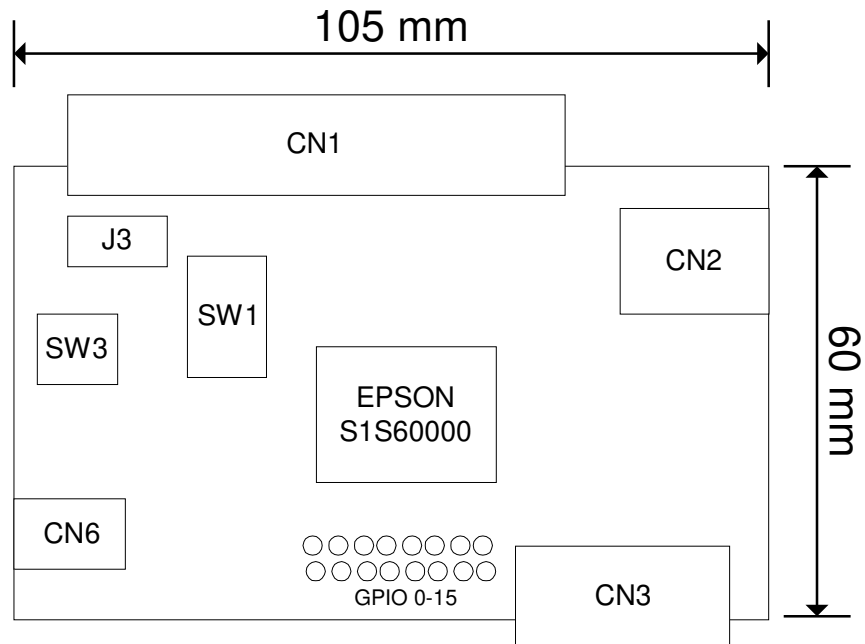

Figure 4-1
Figure 4-1 shows the dimensional drawing for this evaluation board.
See figure 4-1 for the locations of the external interface connectors (CN) provided by this evaluation board.
See figure 4-1 for the position of the mode selector switches provided by this evaluation board.